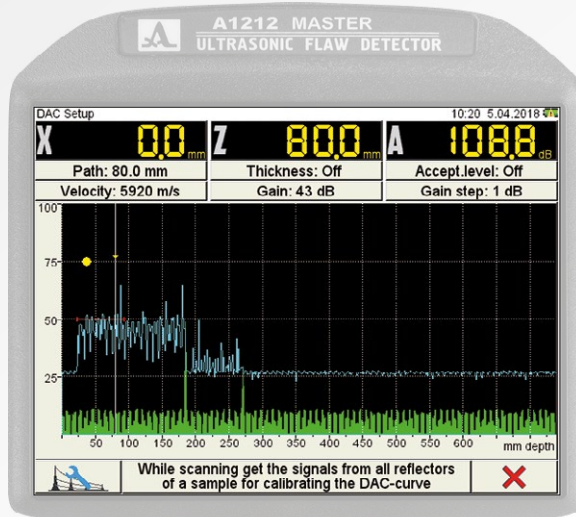

Figure 27
- find the maximal signal from the second reference reflector and adjust it in the same manner, at that the first anchor point shall be out of the strobe field (Figure 27);